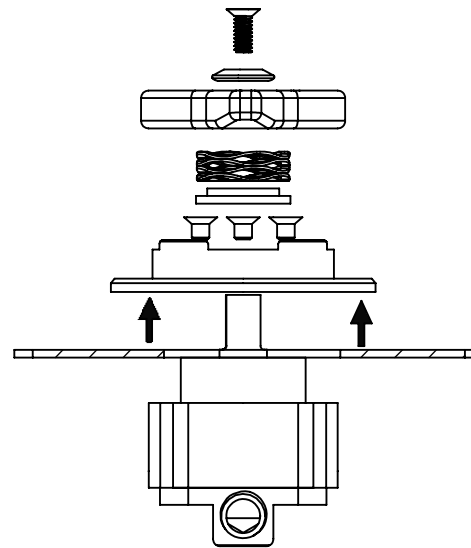

Fig1
1. Remove Lever & Selector Plate assembly (Fig1).